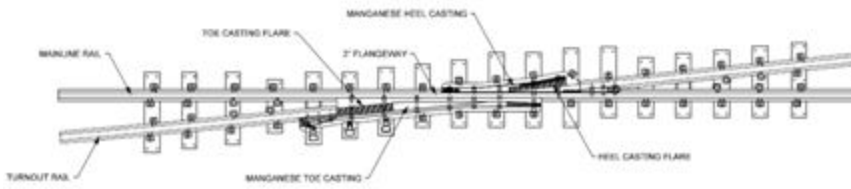

Figure 107J *Jump Frog*
- Jump Frog - This frog features a continuous mainline rail and a flange bearing design on the diverging side. Jump frogs are generally installed in turnouts where traffic on the diverging route is minimal and maximum speed on the turnout side is limited to 10 MPH. (See Figure 107J)